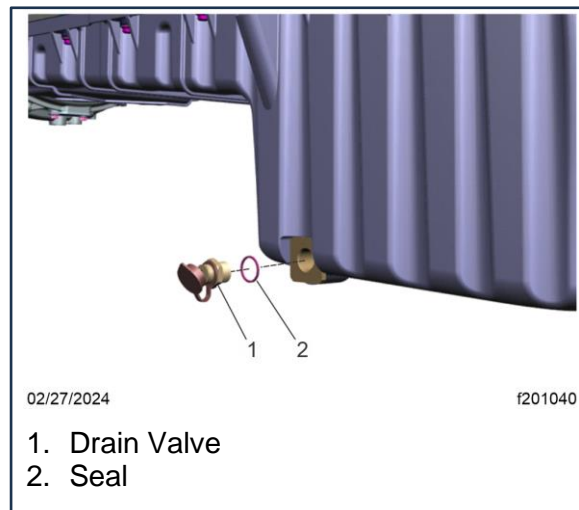

Fig. 3 Installation of the Oil Drain Valve
4. Install the drain valve with copper washer into the oil pan, replacing the original drain plug. Tighten 33 lb-ft (45 N·m). Install the dust cap. See **Fig. 3**.